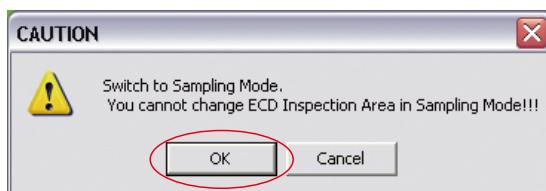

Figure 3-12 Switch to Sampling Mode
Step11: The dialog shown in Figure 3-12 appears and press **OK**.